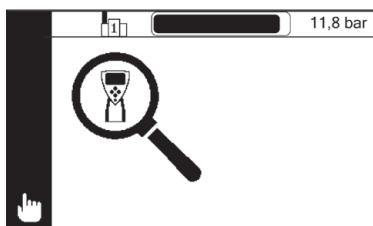

Fig. 7: Waiting mode (here: including pressure display)
In waiting mode, the test set is switched on but no device has been inserted (fig. 7). The test set is ready for use.
- Waiting mode (fig. 7) will be displayed until a device has been inserted.